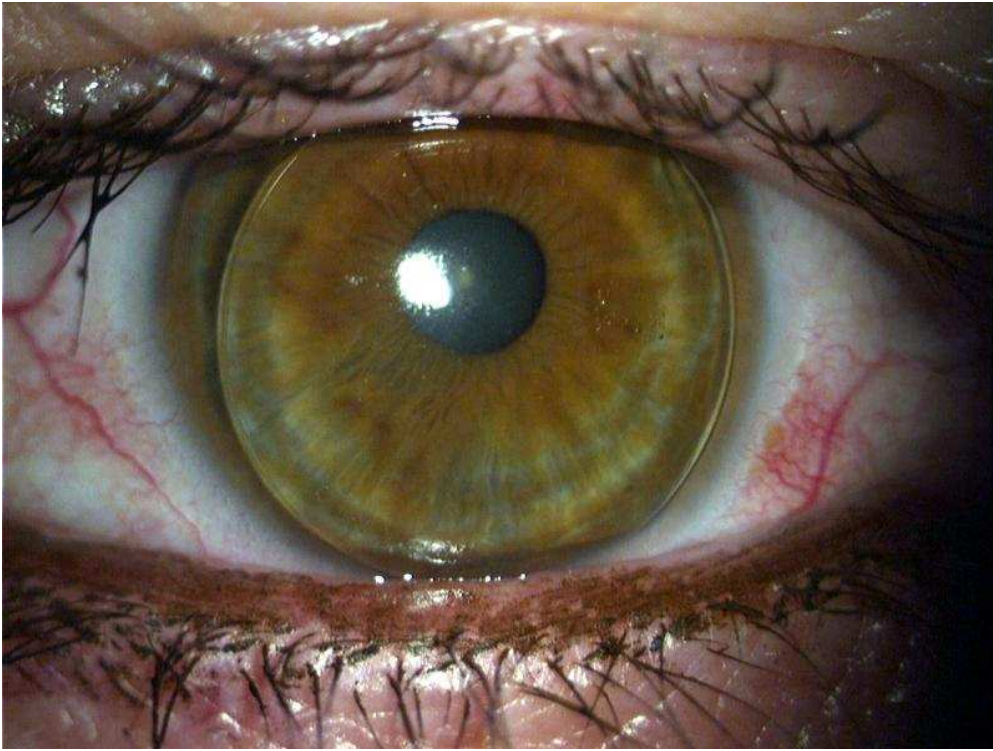

Figure 1: Conjunctival hyperemia due to 3 and 9 o'clock staining
A 52-year-old, caucasian female patient had 13.00D of myopia for which she has been wearing (R)GP lenses for 31 years. During the last few years, the patient has suffered from increased 3 and 9 o'clock staining OD, which led to decreased wearing time and marked red eyes - grade 2-3 - in the horizontal meridian (Figure 1).